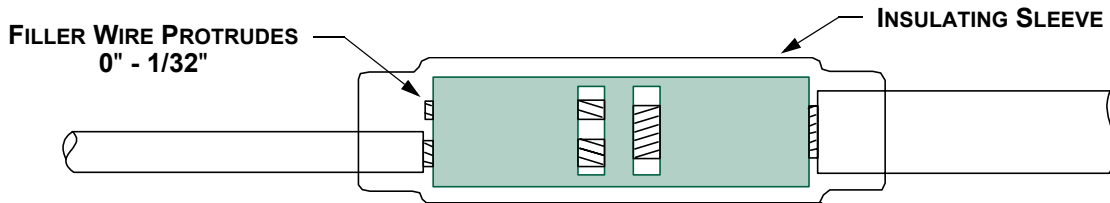

FIGURE 2 - SINGLE FILLER WIRE METHOD
| FIGURE 2 - SINGLE FILLER WIRE METHOD | 9 |
5.2.2.1 Install a single filler wire as follows (see Figure 2). Only use the single filler wire method if the requirements of Step 5 can be met.